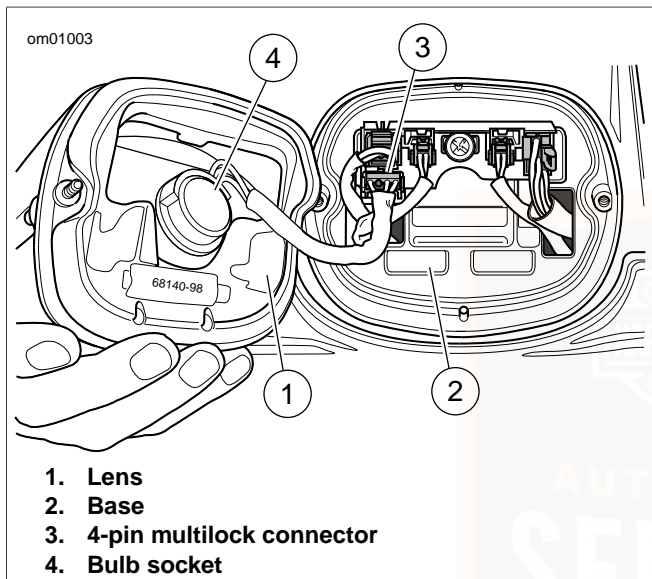

Figure 63. Tail Lamp Assembly
2. See Figure 63. Disconnect tail lamp connector (3).
3. Rotate bulb socket (4) 1/4 turn counterclockwise and remove from tail lamp assembly. Pull bulb from socket.
2. Insert socket (4) into tail lamp assembly and rotate 1/4 turn clockwise.
3. See Figure 63. Connect tail lamp connector (3).